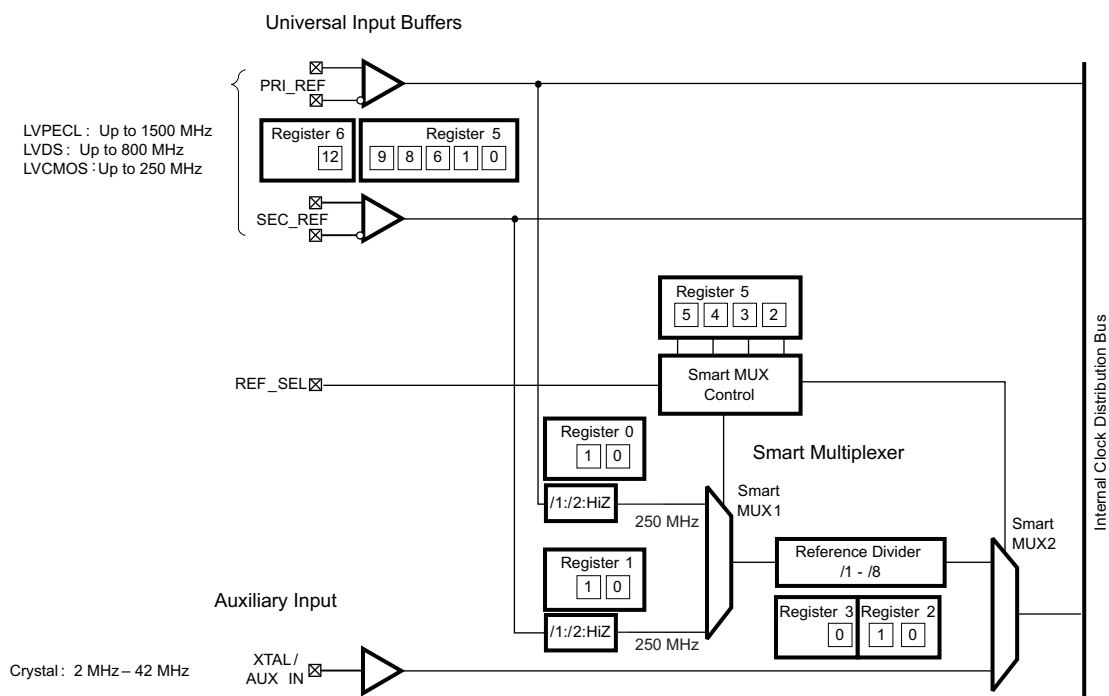

Figure 18. CDCE62005 Input Block With References to Registers
- O: The output divider value (see Figure 18 in Output Block for more details)
The Clock Divider Module receives the clock selected by the output multiplexer. The output multiplexer selects from one of four clock sources available on the Internal Clock Distribution. For a description of PRI\_REF, SEC\_REF, and SMART\_MUX, see Figure 18. For a description of SYNTH, see Figure 28.